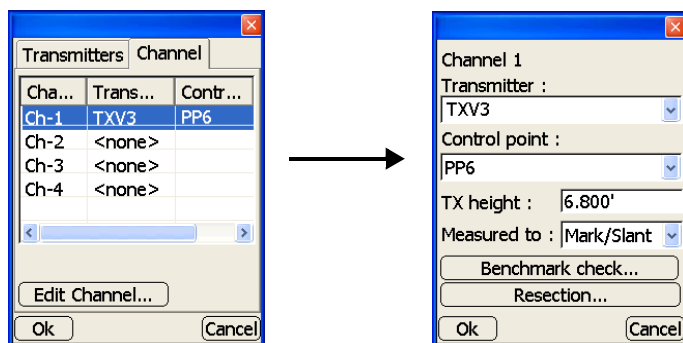

Figure 4-9. Enter Transmitter Channel and Control Point Data
7. To enter transmitter setup information, tap the *Channel* tab and select the connected transmitter, then press **Edit Channel**. Set the following parameters and tap **Ok** (Figure 4-9 on page 4-14):